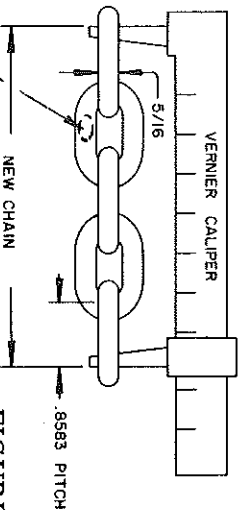

FIGURE 5
- b. Check chain elongation with a vernier caliper as shown in figure 5.